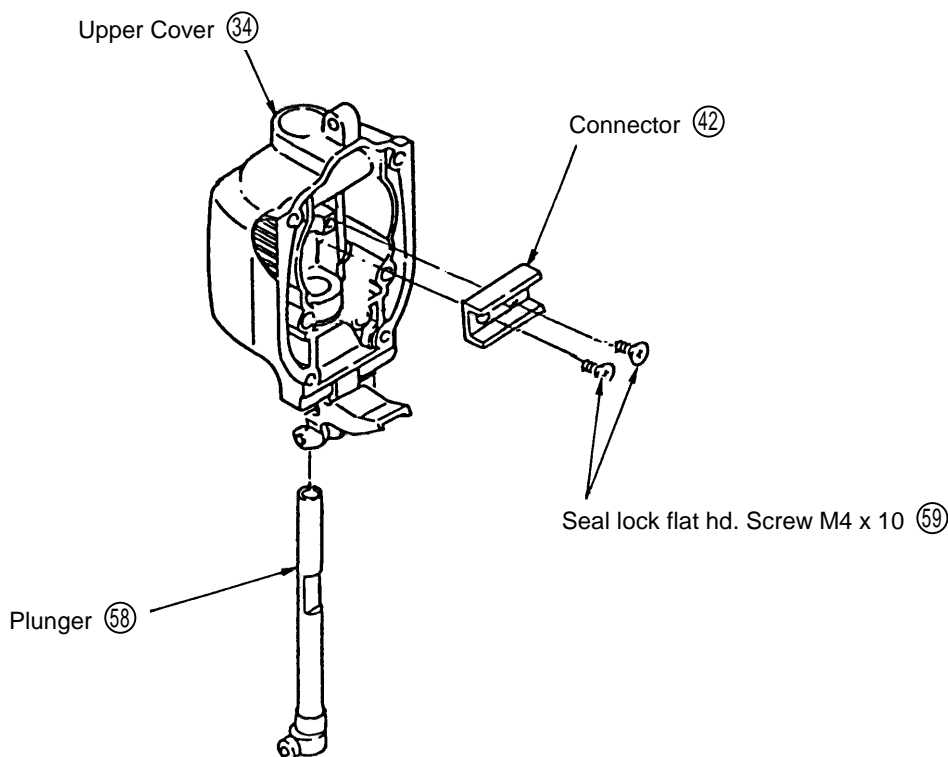

Fig. 12
- (3) Disassembly of the Plunger (58) from the Upper Cover (34):
Remove the two M4 x 10 Seal Lock Flat Hd. Screws (59) which fix the Connector (42), and take out the Connector. Then pull the Plunger (58) toward the Base (65) to remove it from the Upper Cover (34). (See Fig. 12)